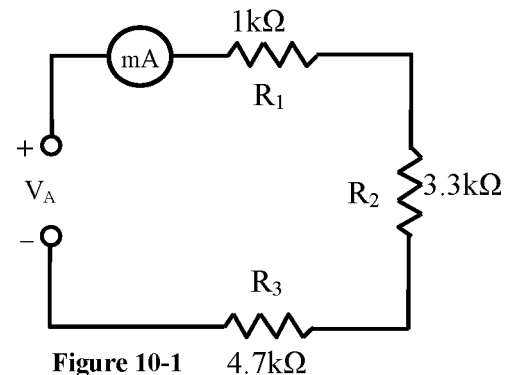

Figure 10-1
- Connect the initial circuit as shown in Figure 10-1.